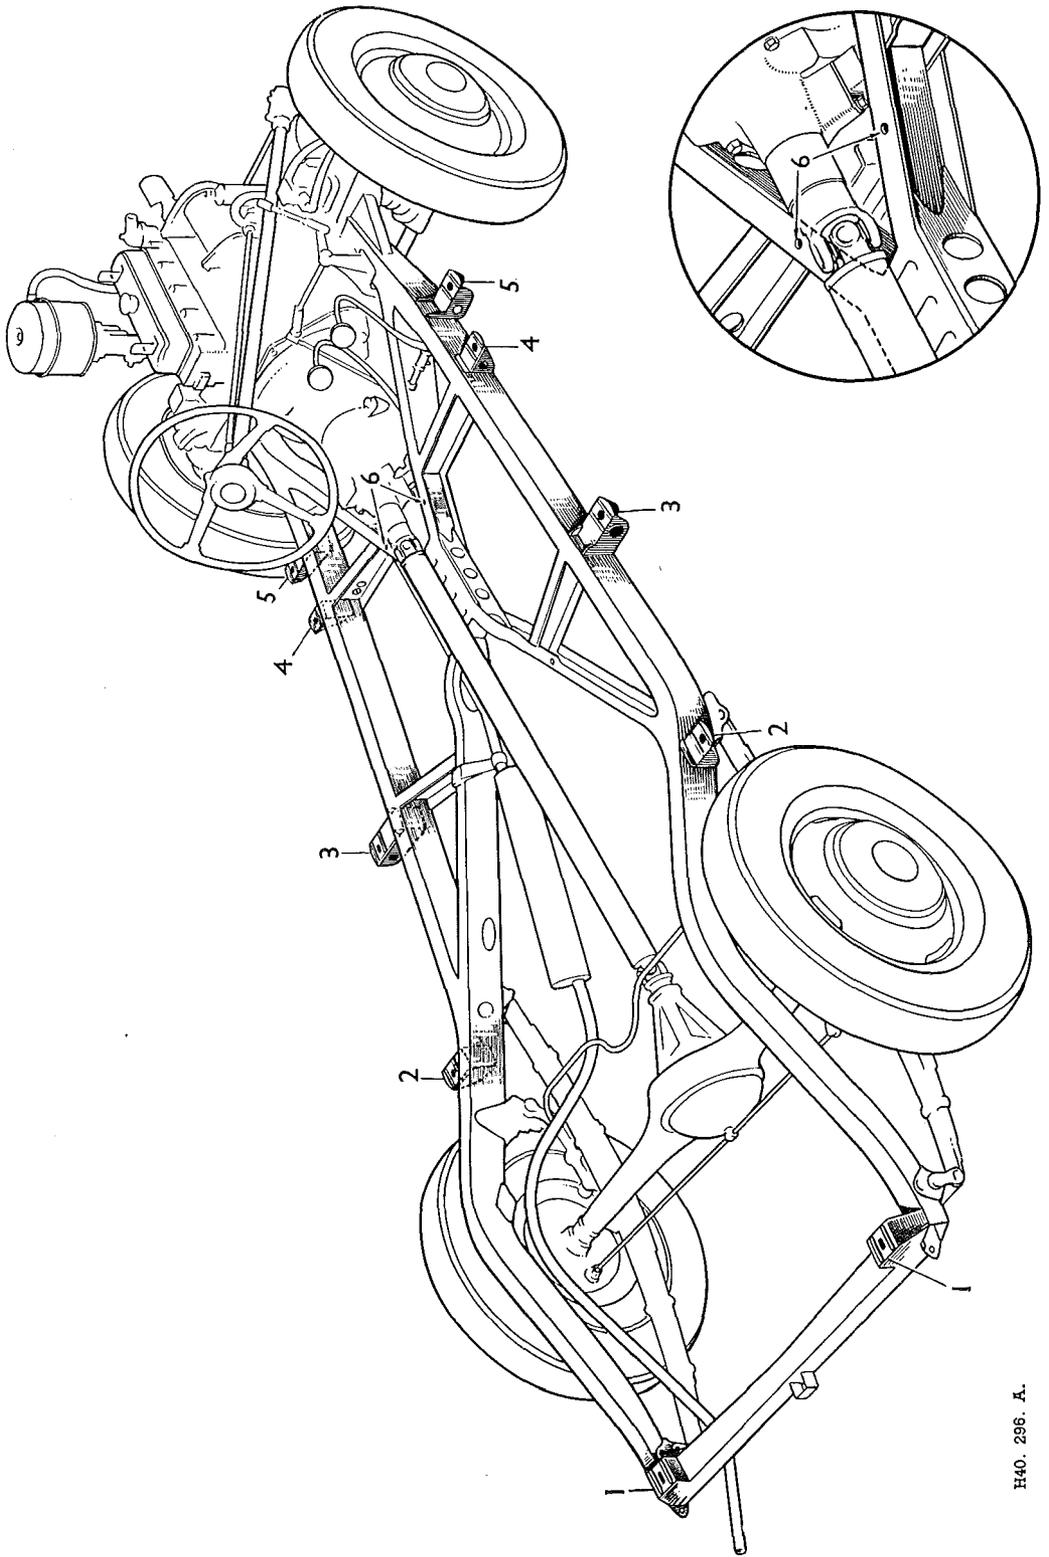

Fig. 16. Illustrating the main body mounting points on the chassis, numbered from 1 to 6. Inset shows points No. 6 enlarged.
The body main securing points are illustrated in Fig. 16, page P/12, and it should be noted that the body mounting point numbered (5) is not used for these